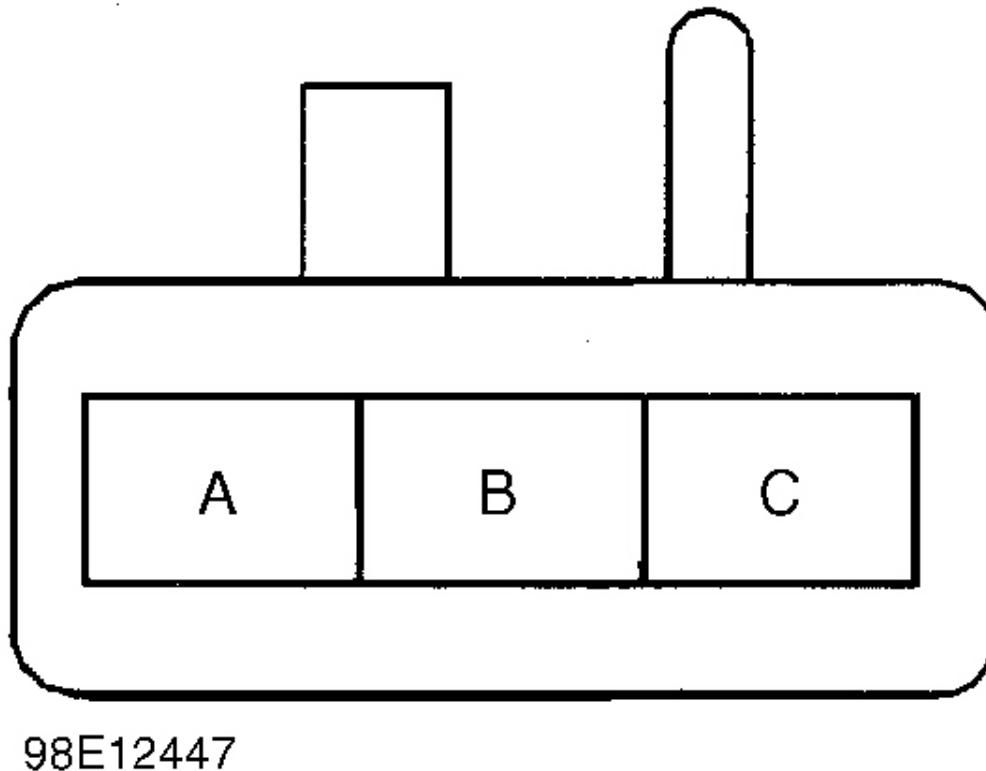

Fig. 3: Identifying Left Seat Lower Motor Harness Connector C2
2. Disconnect left seat lower motor connector C2. Using DVOM, check voltage between left seat lower motor harness connector C2, terminal "A" (Purple wire) and ground. See **Fig. 3** . If 4.5-5.5 volts exists, go to next step. If 4.5-5.5 volts does not exist, go to step 5).
2. Disconnect left seat lower motor connector C2. Using DVOM, check voltage between left seat motor harness connector C2, terminal "A" (Purple wire) and ground. See **Fig. 3** . If 4.5-5.5 volts exists, go to next step. If 4.5-5.5 volts does not exist, go to step 5).
2. Disconnect left seat lower motor Black, 3-pin connector C2. Using DVOM, check voltage between left seat lower motor harness connector C2, terminal "A" (Purple wire) and ground. See **Fig. 3** . If 4.5-5.5 volts exists, go to next step. If 4.5-5.5 volts does not exist, go to step 5).